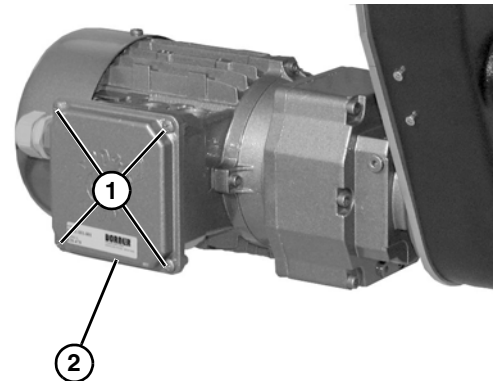

Figure 18
1. Loosen terminal box screws (**Figure 18, item 1**) and remove cover (**Figure 18, item 2**).